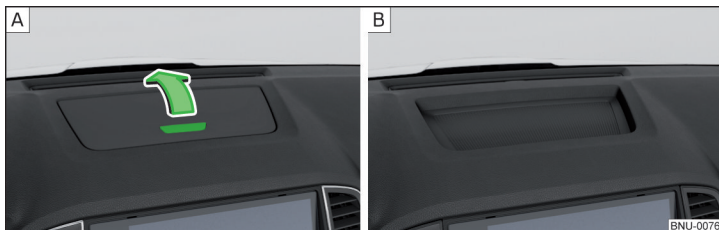

Fig. 108 Opening storage compartment/ non-lockable storage compartment
- ▶ To **open** press the button » Fig. 108 - **A** the cover opens in the direction of arrow.
On some vehicles, the storage compartment does not have a lid » Fig. 108 - **B**, or a loudspeaker grille is installed instead of the storage compartment.